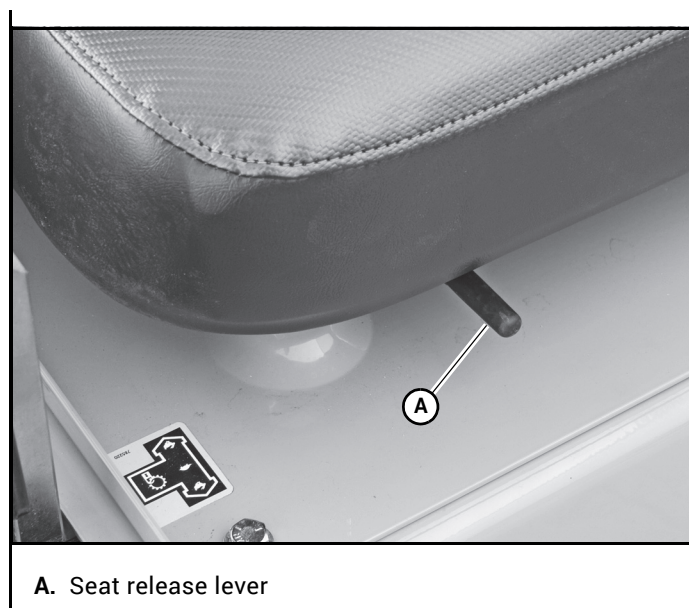

Figure 4-12
1. Use the seat release lever to slide the seat forward and rearward. Figure 4-12